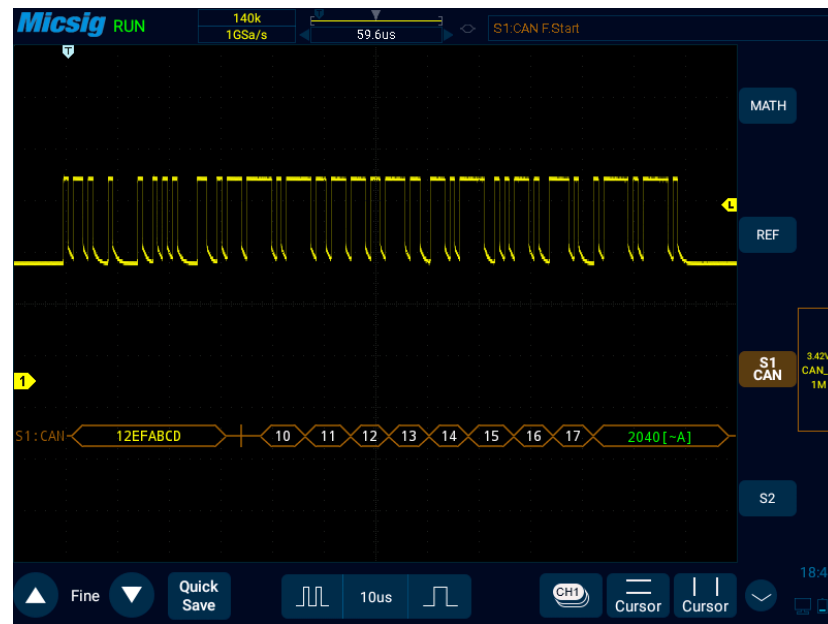

Figure 12-16 CAN Graphic Interface
- (1) Tap S1 to open the decode channel, and click S1 again to open the bus configuration menu;
- (2) Select the bus type as “CAN”, and then click “Ch1”, “Idle High” and “1Mb/s”. After setting, click the blank area to close the menu;
- (3) Open the trigger mode configuration menu and click “Frame Start”;
- (4) Adjust the threshold level according to the signal amplitude; the CAN trigger graphic interface is shown in Figure 12-16: